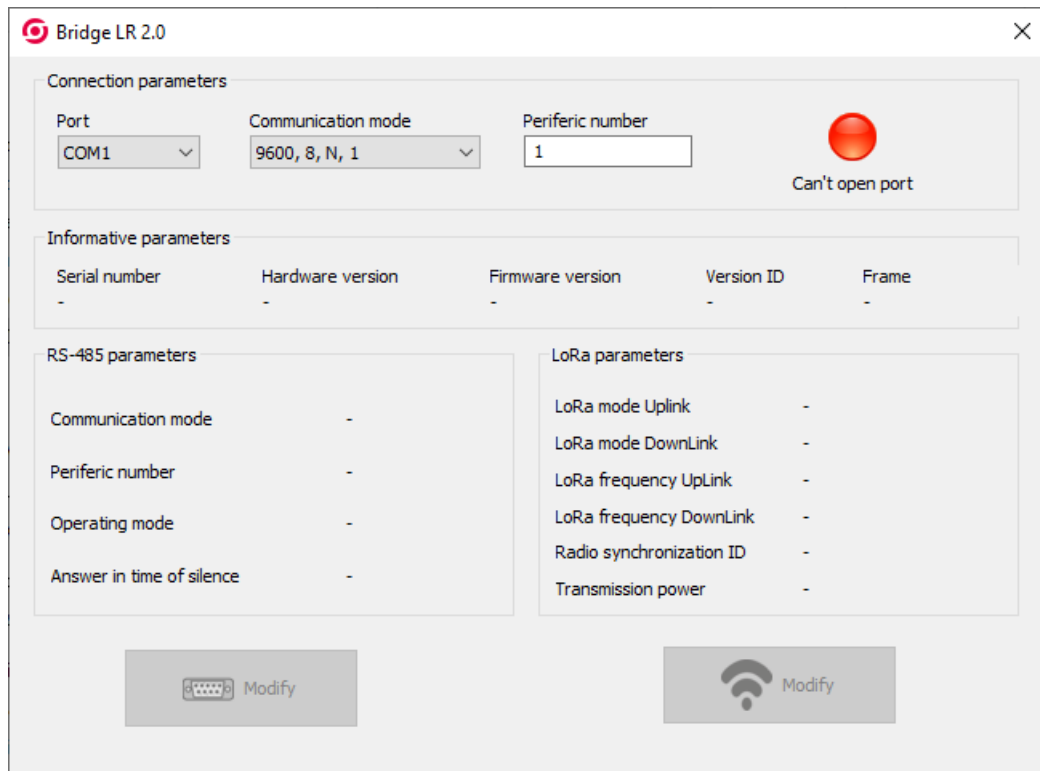

Figure 6: Configuration software: Home screen.
- 2.- Run the Configuration software on the computer, which will display the screen in **Figure 6**.